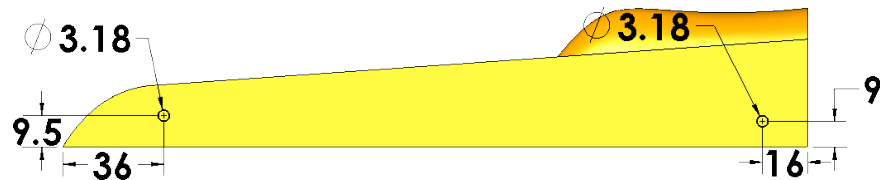

Fig. 73
Step 8. Add the dimensions as shown in **Fig. 73**.